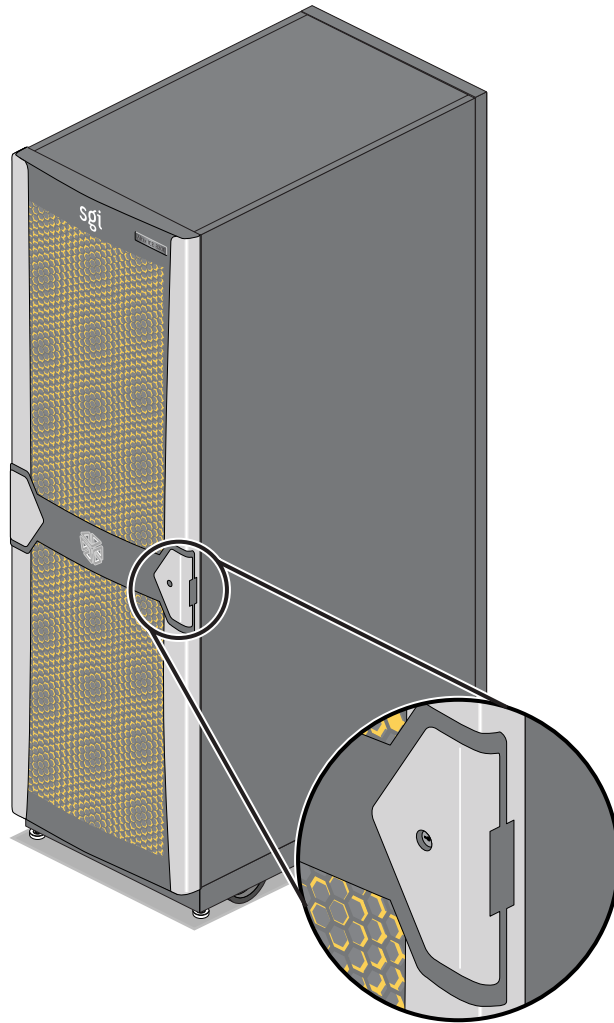

Figure 4-2 Tall (42U) Altix Rack and Front Lock
At the time this document was published only the tall (42U) Altix ICE 8000 rack shown in Figure 4-2 was approved for use with the ICE systems.
- **Front and rear door.** The front door is opened by grasping the wide end of the triangle-shaped door piece and pulling outward. It uses a key lock for security purposes that should open all the front doors in a multi-rack system (see Figure 4-2 on page 38). Note that the front door and rear door locks are keyed differently. The optional water-chilled rear door does not use a lock.